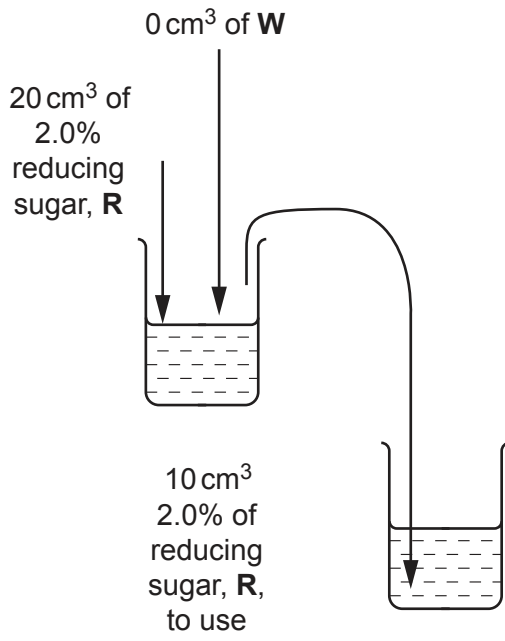

Fig. 1.1
Fig. 1.1 shows the first 2 beakers you will use to make your serial dilution.
- (iv) Complete Fig. 1.1 by drawing as many extra beakers as you need for your serial dilution of reducing sugar solution.
10. Prepare the concentrations of reducing sugar solution as shown in Fig. 1.1.